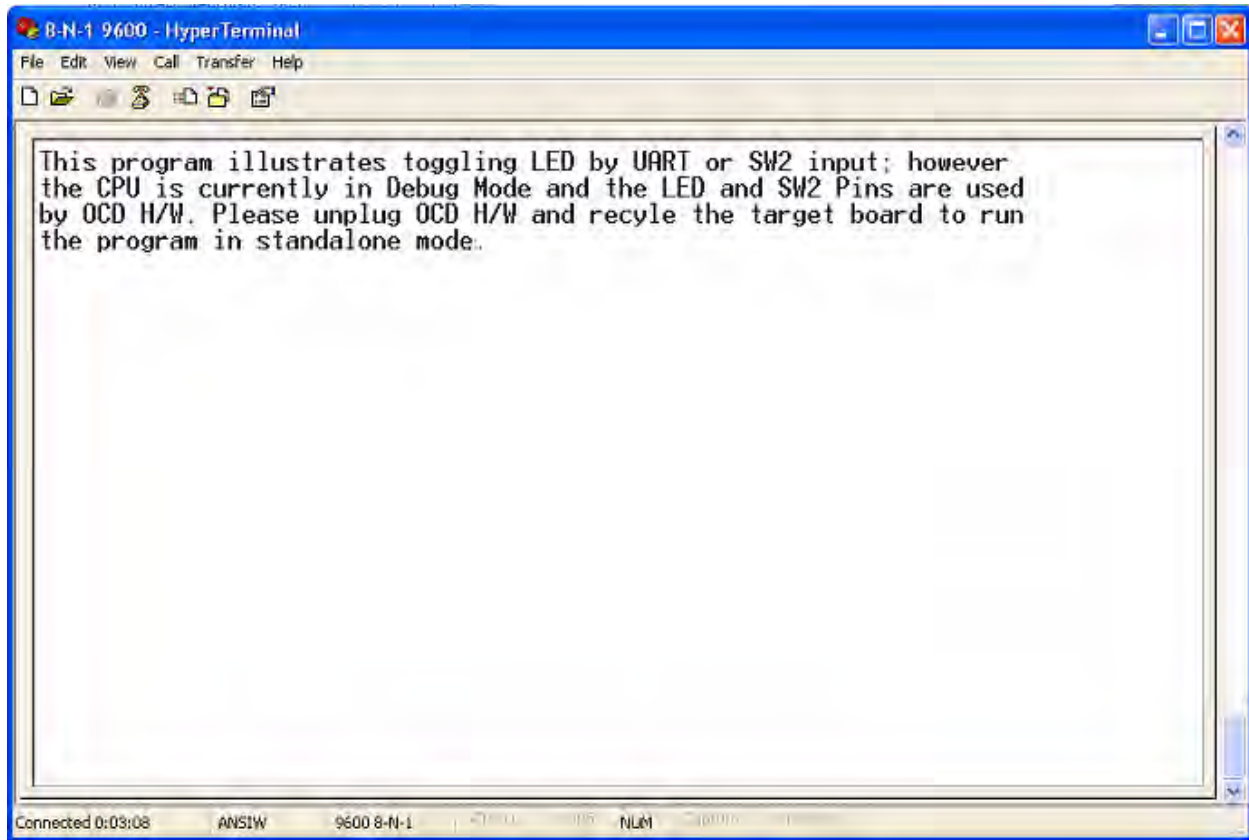

Figure 21. HyperTerminal Message After Selecting Go
- From the **Emulation** menu of the OCD software, select **Go**. As a result, you should see the HyperTerminal message shown in Figure 21.
4. From the **Debug** menu, select **Run**. As a result, you should see the HyperTerminal message shown in Figure 21 on page 24.